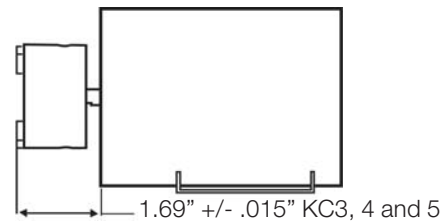

Figure 3
1. Place the impeller assembly (item 2, 2A) over the ceramic shaft in the barrier.
2. Install the o-ring (item 5) on the impeller housing (item 1). Lubricate the o-ring with a compatible lubricant to facilitate o-ring installation.
3. Place the impeller housing (item 1) onto the barrier (item 3) being careful not to dislodge the o-ring.
4. Align the holes in the impeller housing and barrier and install the 8 mounting screws (item 6). Using a screwdriver, hand-tighten screws being careful not to overtighten.
5. If the drive magnet (item 4) was removed, reinstall by sliding drive magnet assembly onto the motor shaft until a distance of 1.69" +/- .015" is measured from the face of the motor to the top of the drive magnet. See Figure 3. Align one set screw (item 4A) with flat on motor shaft and tighten both set screws with 1/8" Allen wrench to 70 in-lbs (7.9 N-m).